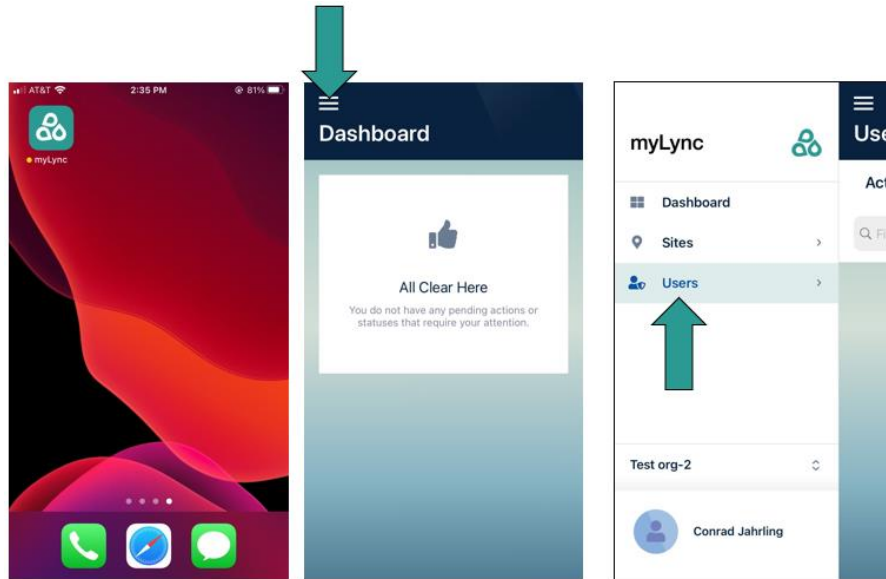

Figure 5-22 – myLync User Page
1. Go to the user page within the myLync app (Figure 5-22).